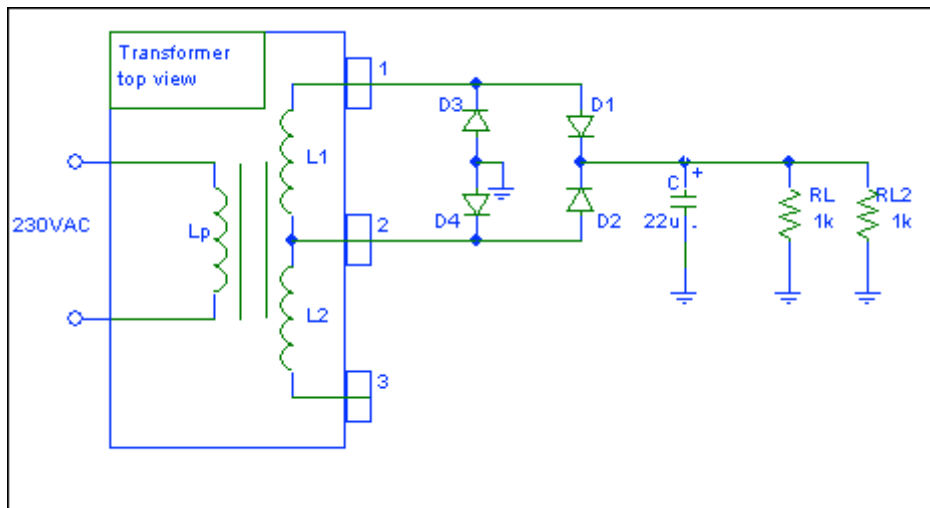

Fig. 5 Diode-bridge full-wave rectifier with smoothing capacitor with increased load.
5. Increase load by adding second load resistor as in fig. 5 and repeat points 2-4.